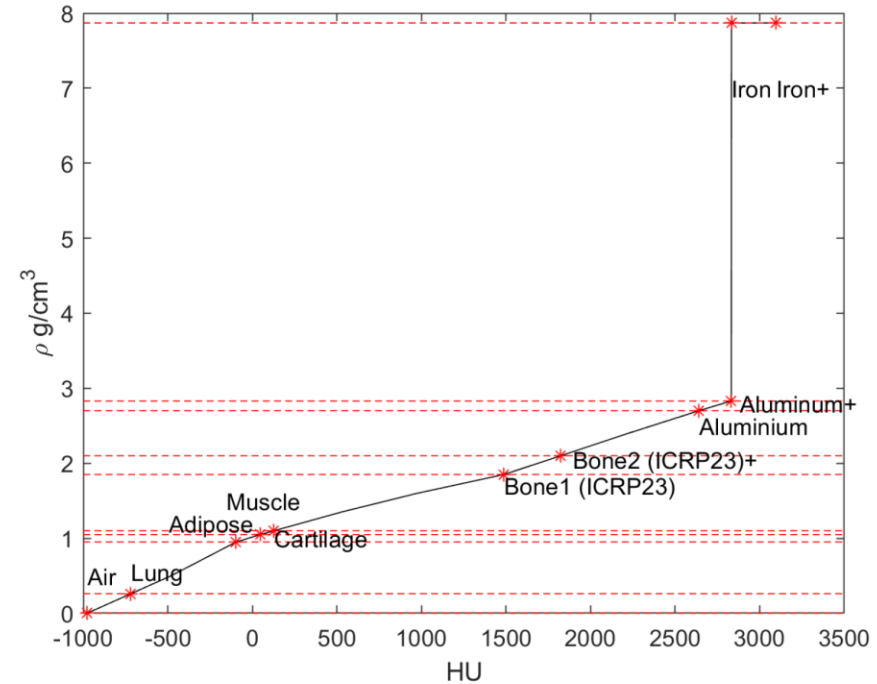

Figure 1.
Figure 1. A typical conversion from mass density to electron and effective density for a 6 MV beam. The effective density is used both in TERMA-tracing, point spread kernel tracing and electron dose computation.
- X-axis in Figure 1 depends on which CT-to-density table is used